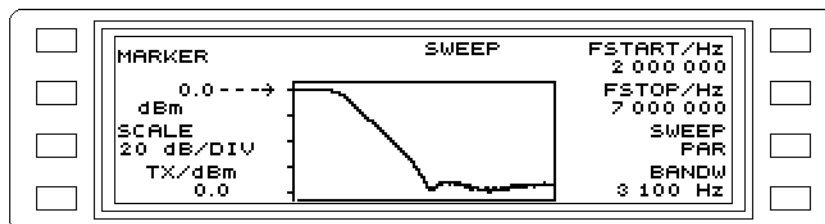

Fig. 5-44 Main menu for SWEEP mode
1. The level meter is equipped with one coaxial input [20] covering the entire specified frequency range. The input impedance can be selected from the IMPED menu; values available are: High impedance, $75\ \Omega$ and $50\ \Omega$. The selected impedance is indicated by the LED display above the input (see fig. 5-44). The default setting for the coaxial input is high impedance (∞). The LED lit above $75\ \Omega$ indicates the reference impedance for the dBm display when making power measurements.